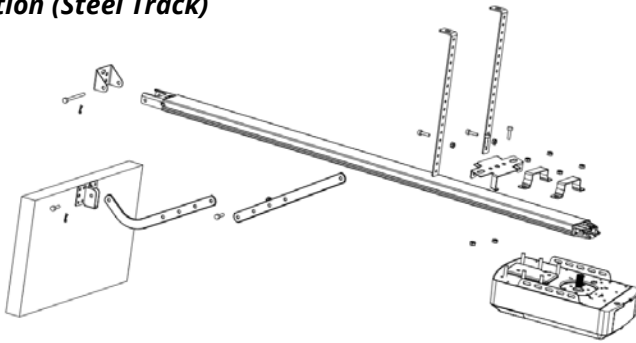
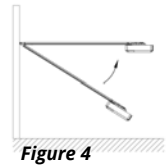
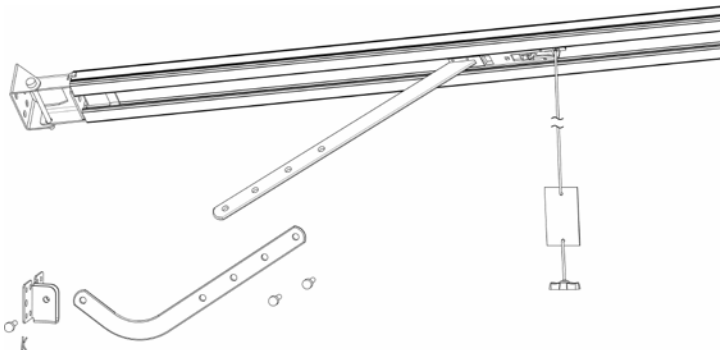

Figure 3
Figure 4
Figure 5
STEP 1 (Fig.3)
STEP 2 (Fig.3)
STEP 3 (Fig.3, Fig.4)
STEP 4 (Fig.3, Fig.5)